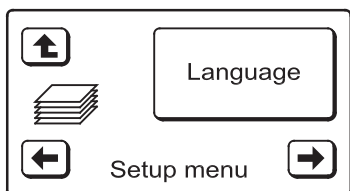

FIG. 23
2. Press the LEFT (←) button to display the screen shown in Figure 23.